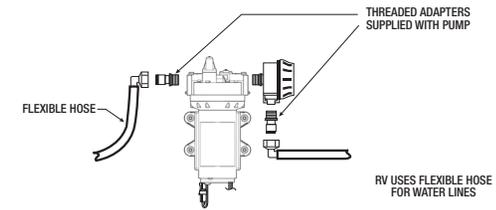
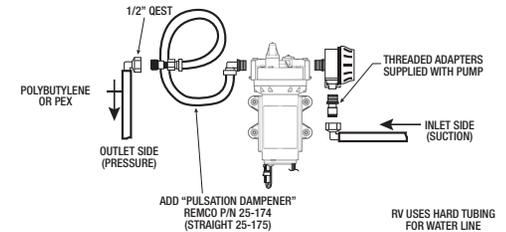

FIGURE 5
FIGURE 6
4. Survey the existing plumbing and identify the suction line (i.e. the line going from the water holding tank to the pump). For the quietest possible operation of the Aquajet pump, you should try to isolate the pump mechanically from your RV’s typically hard Polybutylene or PEX tubing. If your RV is currently plumbed with soft-walled, reinforced hose (see Figure 5, page 15), then your system should be perfectly sufficient as is. By installing a piece of IAPMO approved cold water hose (such as ‘Accuflex’ Series 136) between the pump outlet port and your RV’s hard plumbing, you will achieve the quietest possible pump operation. Remco also offers, as an optional accessory, a 39” long pre-assembled hose with fittings (Remco product number 25-174) that will adapt directly to the Aquajet RV and your existing plumbing. Please refer to Figures 6 and 7, page 15.
- At the end of your survey you should have determined how to wire the Aquajet pump. Your alternatives are illustrated in Figure 1, page 13 (“no change”, also applicable for single switch systems), Figure 2 page 13, Figures 3, 4 or 8, page 15. You should also have determined how to plumb the pump. Your options are Figures 5, 6 or 7, page 15. Always make sure you have all hardware needed before you start the actual installation.
3. Survey the existing plumbing and identify the suction line (i.e. the line going from the water holding tank to the pump). For the quietest possible operation of the Aquajet pump, you should try to isolate the pump mechanically from your RV’s typically hard Polybutylene or PEX tubing. If your RV is currently plumbed with soft-walled, reinforced hose (see Figure 5, page 15), then your system should be perfectly sufficient as is. By installing a piece of IAPMO approved cold water hose (such as ‘Accuflex’ Series 136) between the pump outlet port and your RV’s hard plumbing, you will achieve the quietest possible pump operation. Remco also offers, as an optional accessory, a 39” long pre-assembled hose with fittings.
(Remco product number 25-174) that will adapt directly to the Aquajet pump and your existing plumbing. Please refer to Figures 6 and 7, page 15.
- 7a. [For old pump outlets connected to hose, as in Figure 5, page 15] Insert O-ringed end of (Qest) threaded adapter into outlet port (marked with arrow pointing away from pump) of the Aquajet pump. Lock fitting in place by pushing down retainer slide.
7b. [For old pump outlets directly connected to hard tubing, as in Figure 6, page 15].
8a. [If the Aquajet pump is to be directly plumbed to the existing inlet filter/fitting, as in Figures 5 and 6, page 15].
12. If an Accuflex hose adapter is used on the outlet side (see Figures 6 and 7, page 15), place the other end of the hose adapter up high. This should stop water from being siphoned out.
- 17a. [If you are plumbing per Figure 5, page 15]
- 17b. [If you are plumbing per Figures 6 or 7, page 15]
20. Water should be flowing into bucket (see Figures 6 and 7, page 15) or into the sinks (see Figure 5, page 15).